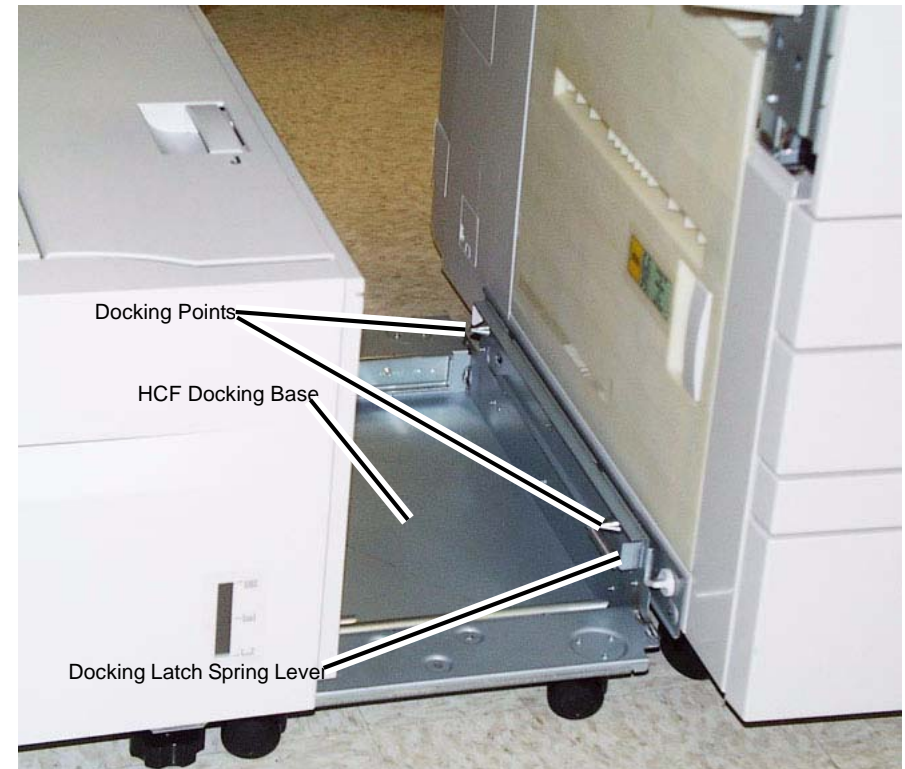

Figure 1 Exposing the docking base
4. Grasping the HCF by its upper corners, pull the HCF away from the copier/printer to expose the HCF Docking Base (Figure 1).